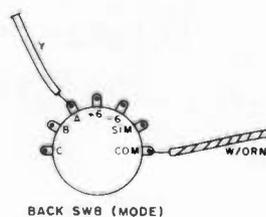

Fig. 2.
3. Locate SW8 (Fig. 2) and lift the yellow wire from tab "A". Insulate the end with spaghetti.